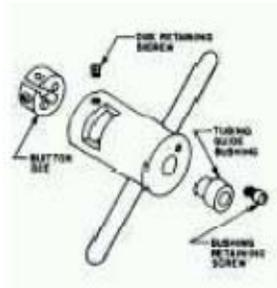

Figure 8-48. Threading Tool for Superpressure Tubing
1. Assemble threading tool (Figure 8-48) as follows: